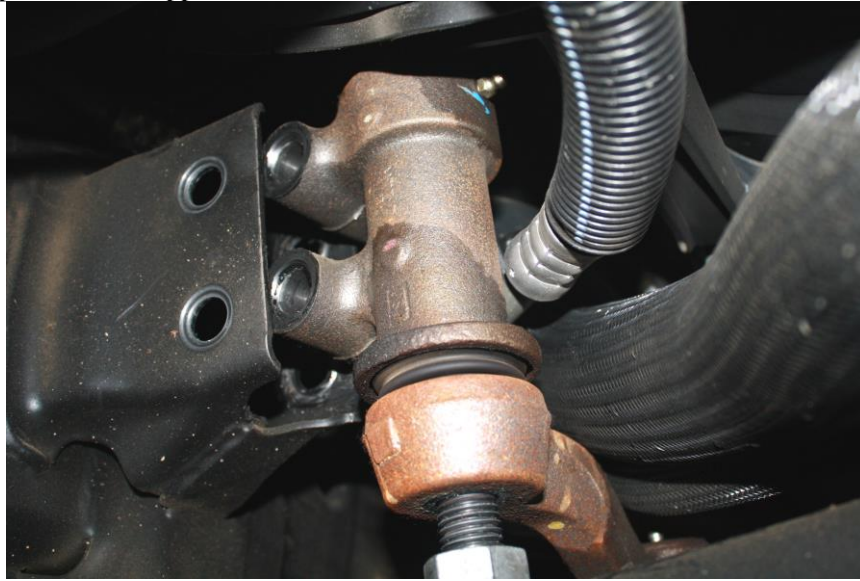

Figure 8: idler arm and idler pivot
7. Loosen the nut holding the idler arm to the idler arm pivot with a 30mm end wrench. Then unbolt the idler pivot from the frame and pry it out of the mounting pocket as shown in figure 8.